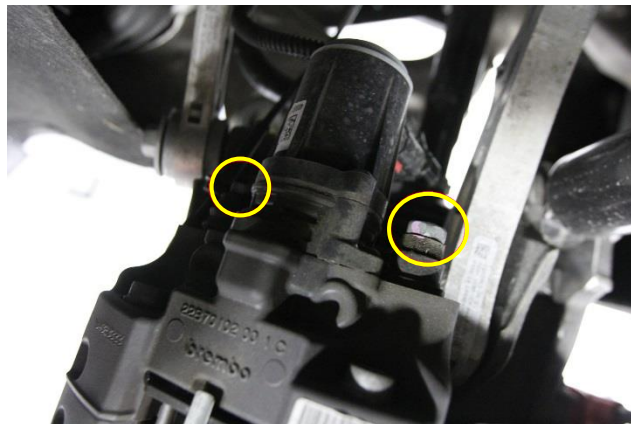

Figure 27
39. Install the LH parking brake caliper to the rear LH knuckle, and then install new bolts (x2) to attach the caliper to the knuckle (torque 57 Nm) (Figure 27).